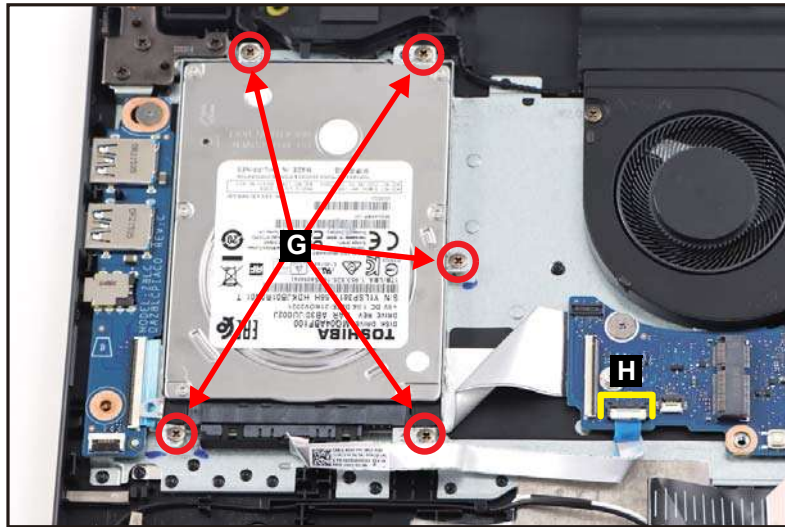

Figure 3-102. Replacing the HDD Module
5. Install and secure five (5) screws (G) to the HDD bracket (Figure 3-102).
6. Connect the HDD cable to the mainboard connector (H) (Figure 3-102).